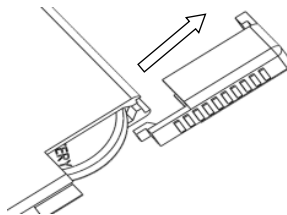

Fig. 1
- Open the battery cover as shown below (Fig. 1).